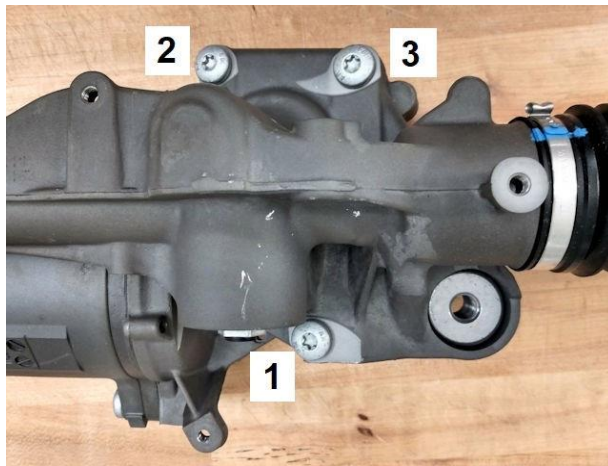

Figure 2
- Following the sequence 1, 2, and 3 shown (Figure 2) loosen the three T40 Torx screws about half a turn to relieve tension in the servo motor unit.
- Tighten the three T40 Torx screws in sequence 1, 2 and 3 (Figures 2, 4, 5 and 6) with a torque of **10 Nm**.
- Retighten the three T40 Torx screws in sequence 1, 2 and 3 (Figures 2, 4, 5 and 6) with a turning angle of **65°**.
- Verify the final torque of the three T40 Torx screws in sequence 1, 2, and 3 (Figures 2, 4, 5 and 6) using a torque value of **25 Nm** while checking that no more than **10°** of additional turn is applied.